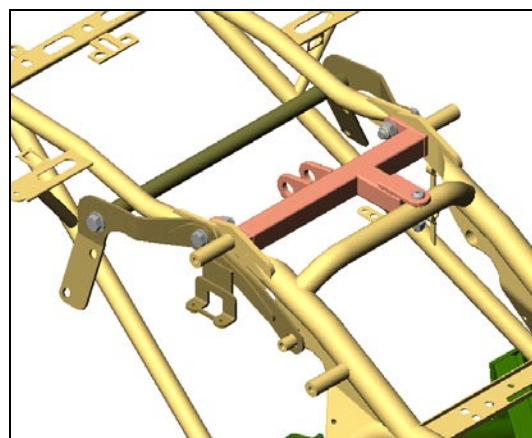

Figure 24
- e. Install cross-over tube using supplied hardware below. Do not tighten at this time. Figure 24